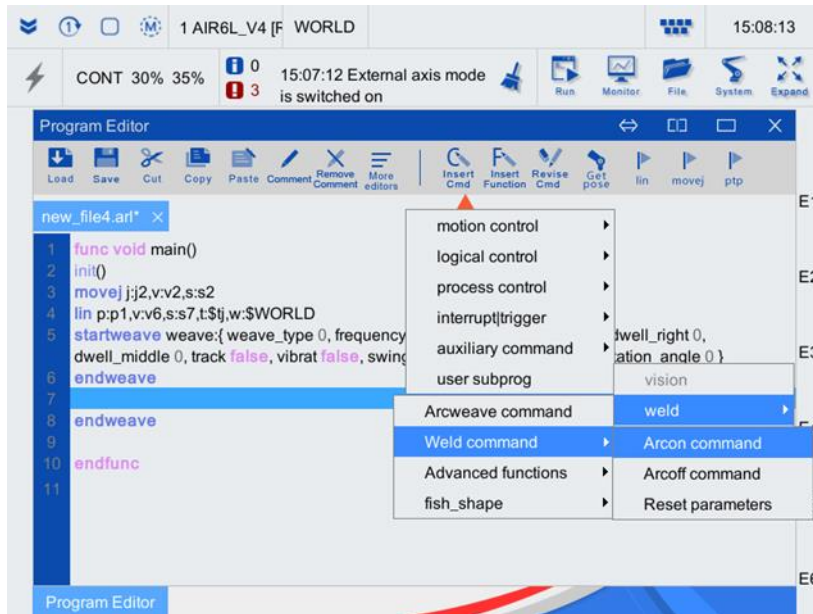

Fig. 7-3 "Arcon Instruction" menu
Step 3. Click "Insert Cmd"-> "Package"-> "weld"-> "Weld command"-> "Arcon command". It generates the welding arcon instruction automatically, as shown in Fig. 7-3.